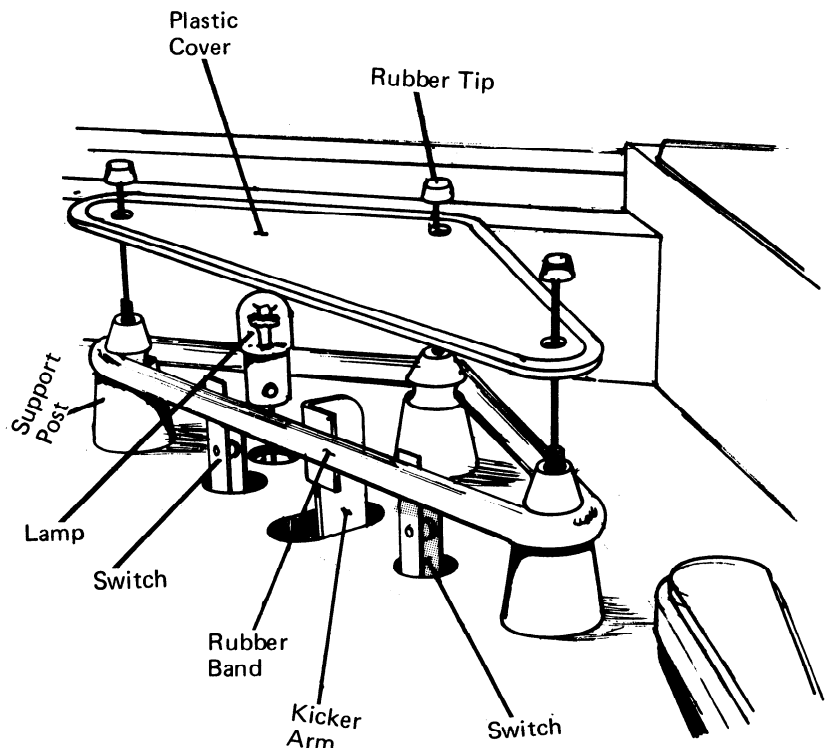

FIGURE 14
If lamp is located on the Playfield, refer to Figure 14.
- Remove rubber tips from support posts and lift plastic cover from over light bulb (Figure 14).
38. Adjust kicker rubber band switch: (See Figure 14, Page 13). Gently bend the long switch contact blade until it just touches the rubber band. Gently bend the short switch contact blade so that the switch contacts are approximately .030 inch apart.